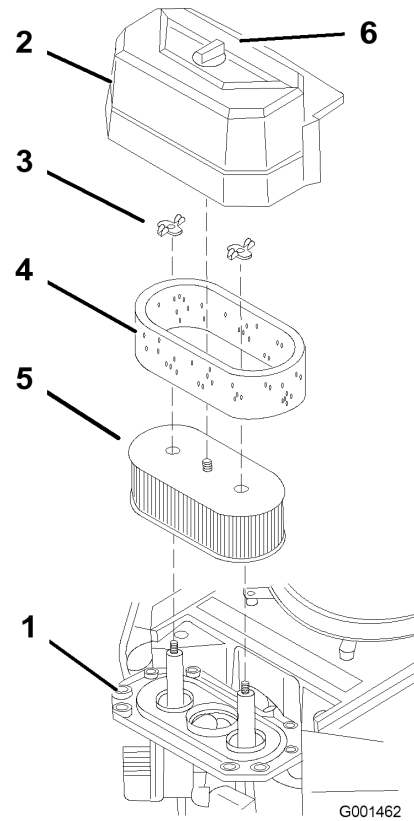

Figure 24
3. Clean around the air cleaner to prevent dirt from getting into the engine and causing damage (Figure 24).
4. Unscrew the cover knob and remove the air cleaner cover (Figure 24).
5. Remove the 2 wing nuts and remove the air cleaner assembly (Figure 24).
6. Carefully pull the foam element off the paper element (Figure 24).
1. Do not clean the paper filter. Replace it after 200 operating hours (Figure 24).
1. Carefully slide the foam element onto the paper air cleaner element (Figure 24).
- Place the air cleaner assembly onto the air cleaner base and secure it with the 2 wing nuts (Figure 24).
- Place the air cleaner cover into position and tighten the cover knob (Figure 24).